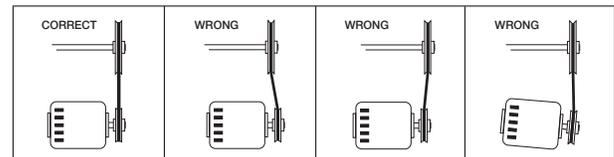

Figure 10
8. If adjustments are made, it is very important to check the pulleys for proper alignment. Misaligned pulleys lead to excessive belt wear vibration, noise and power loss, see Figure 10.